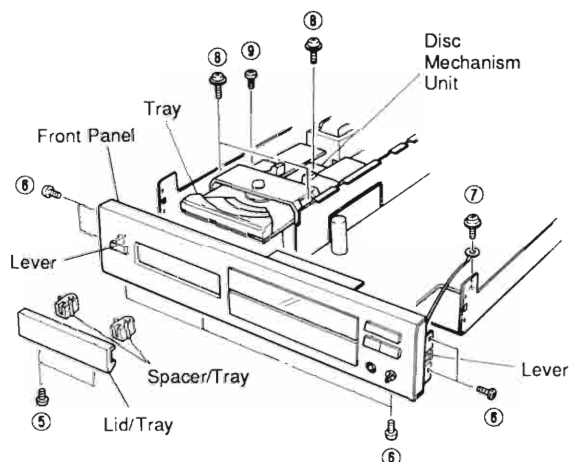

Fig. 2
- Turn OFF the power, remove 2 screws (⑤) and remove the lid/tray in Fig. 2.
- Remove 7 screws (⑥) and a screw (⑦)* in Fig. 2.
- Release 2 levers (one on each side) and pull out the Front Panel in Fig. 2.
- Remove 3 screws (⑧) and a screw (⑨) in Fig. 2.